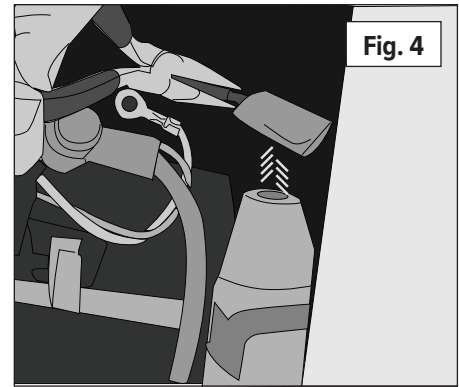

Fig. 4
8. **(Fig. 4)** Using the mini heat gun, heat both sides of the heat shrink tubing to shrink the tube around the metal ring terminal. Be sure that the tubing is **completely covering the ring terminal.**